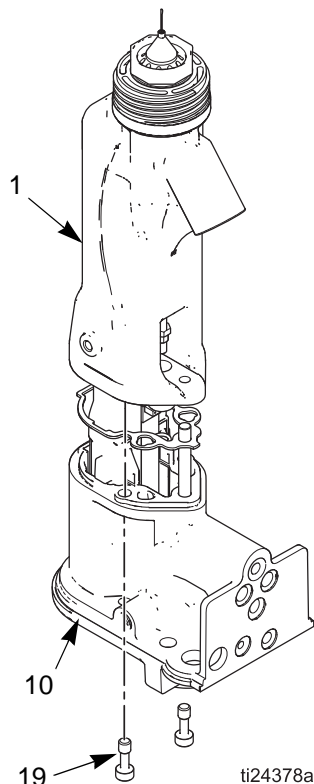

FIG. 34 . Barrel Removal
4. Loosen the two screws (19). See FIGURE 34.
5. Hold the gun body (10) with one hand and pull the barrel (1) straight off the body. See FIGURE 34.